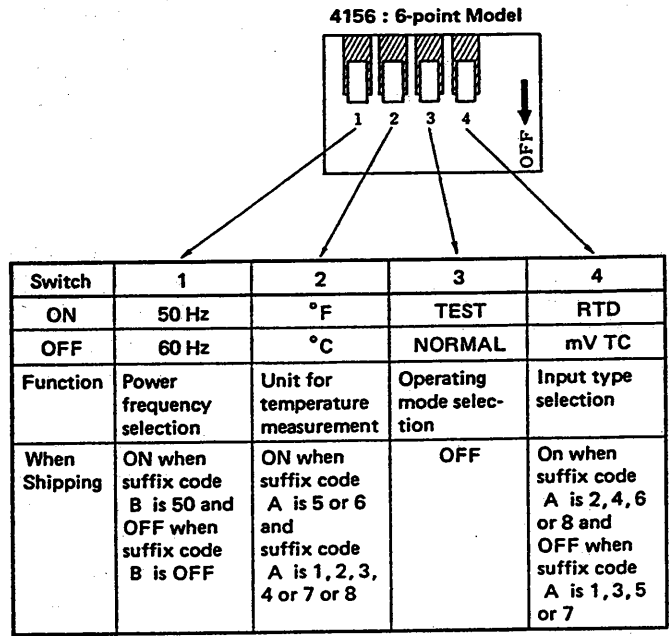

Figure 6-15.
- ii) A four pole type DIP switch is provided with the recorder (see Figure 6-15). When the No. 1 switch is set to the ON position a power frequency of 50 Hz is selected, and when it is set to the OFF position a power frequency of 60 Hz is selected. The functions of each DIP switch are shown in Figure 6-15.